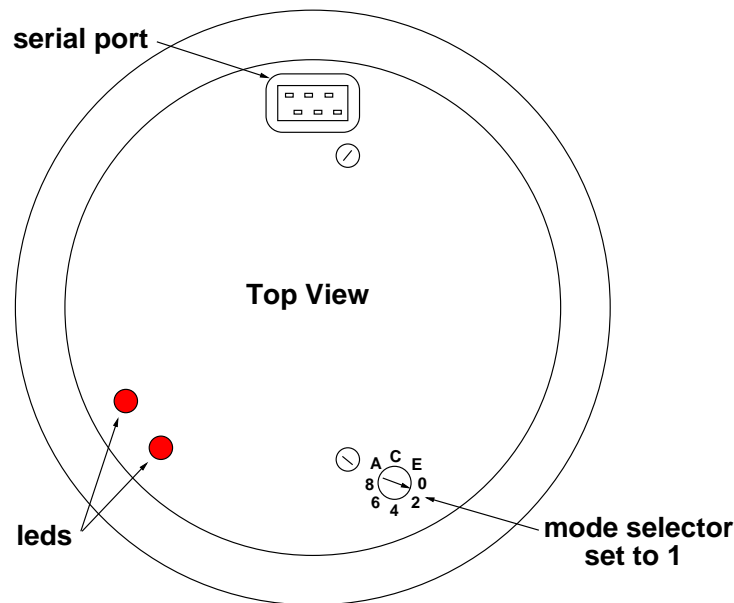

Figure 6.1: Khepera II mode selection
1. Configure your Khepera robot in mode 1, for serial communication protocole at 9600 baud as described in figure 6.1.